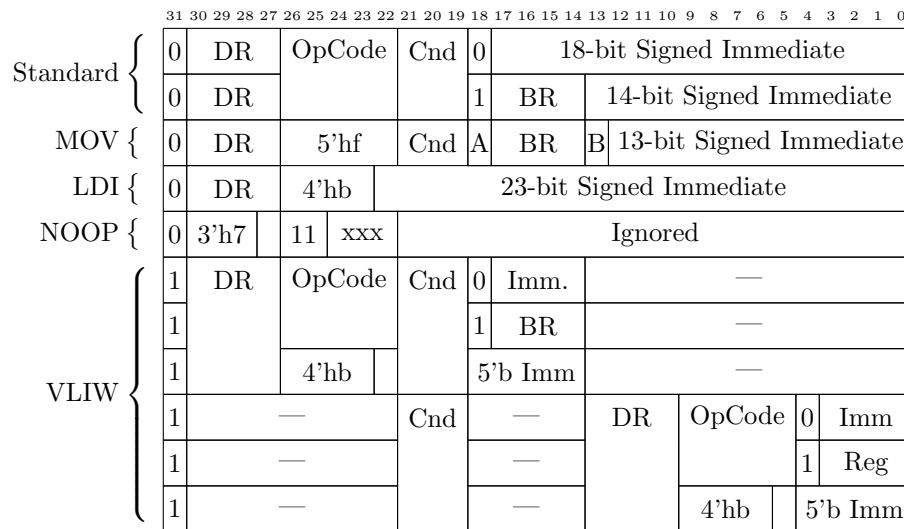

Figure 2.2: Zip Instruction Set Format
All ZipCPU instructions fit in one of the formats shown in Fig. 2.2. The basic format is that some operation, defined by the OpCode, is applied if a condition, Cnd, is true in order to produce a result which is placed in the destination register (DR). There are three basic exceptions to this model. The first is the MOV instruction, which steals bits 13 and 18 to allow supervisor access to user registers.
Many instruction forms have a 19-bit source “Operand B”, or OpB for short, associated with them. This “Operand B” is shown in Fig. 2.2 as part of the standard instructions. An Operand B is